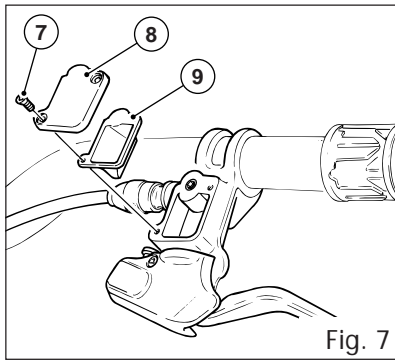

Fig. 7
2.3 - Correcting the fluid level of the compensation reservoir (fig. 7)